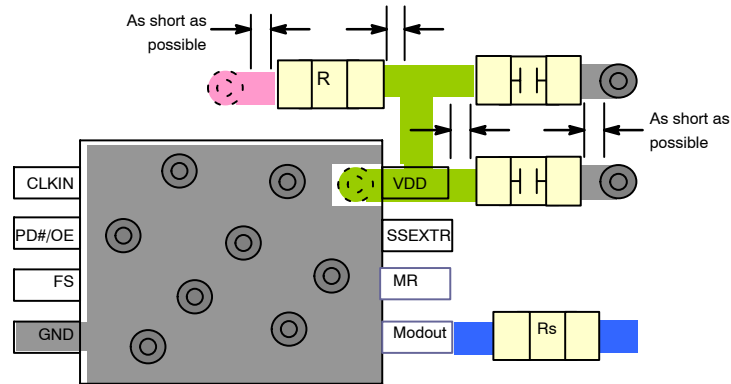

Figure 27.
- In an optimum layout all components are on the same side of the board, minimizing vias through other signal layers. A typical layout is shown in Figure 27.